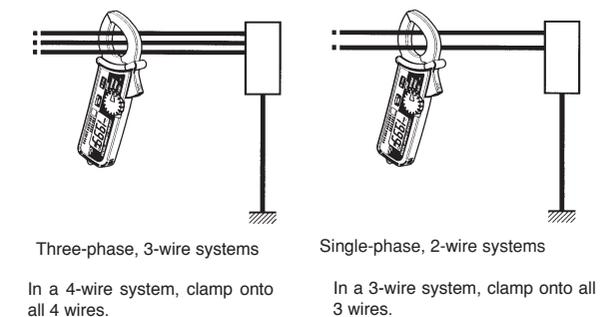

Fig.2 Out-of-balance Leakage Current Measurement
(3) To measure out of balance leakage current (Fig.2), clamp onto all conductors except a grounded wire. The leakage current measured will be indicated on the display.